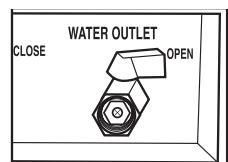

Fig. 2
3. Rinse thoroughly and drain by opening the water outlet, accessible when the door panel is opened. (Fig. 2) You may connect a hose (not supplied) to the water outlet (connection is female NPT  $\frac{1}{2}$  x 12) or drain direct from the valve. Open the water outlet and drain into a bucket or similar container.